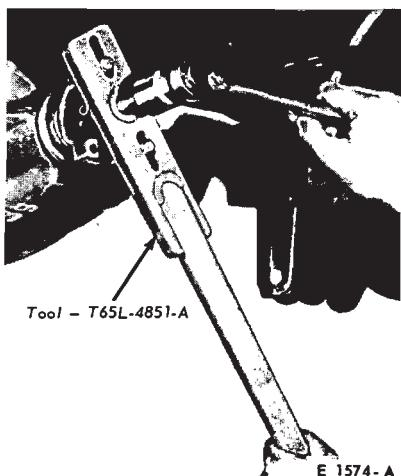

FIG. 13—Drive Pinion Flange Removal
17. Remove the pinion flange (Fig. 13).
5. Again loosen the right nut to release the preload. Check to see that the left nut contacts the bearing cup. Using the dial indicator set-up shown in Fig. 13, Part 15-1, adjust the preload to 0.008 to 0.012 case spread for new bearings or 0.005 to 0.008 for the original bearings.
7. Apply a small amount of lubricant to the washer side of the flange nut and start the nut. Use a new nut. Hold the flange with the tool shown in Fig. 13 and tighten the pinion shaft nut. As the pinion shaft nut is tightened, the pinion shaft is pulled into the front bearing cone and into the flange.